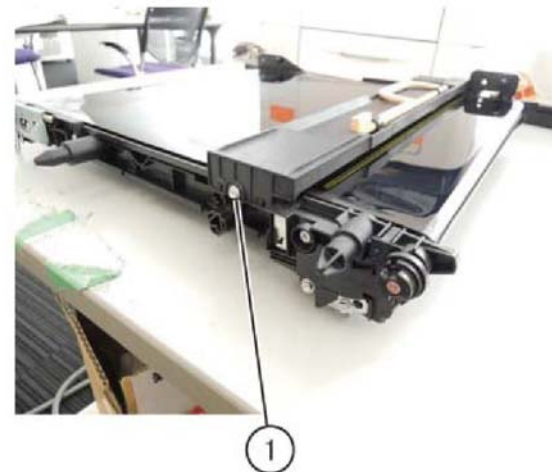

Figure 1 Handle holder rear screw
4. Remove the screw (1) securing the handle holder at the rear, Figure 1.